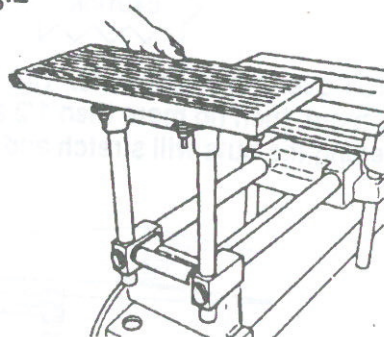
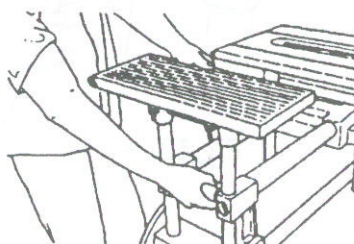

Fig.3
Fig.4
5. Mount the extension table in the Mark V's accessory base mount at a comfortable height, shown in Fig.3. Tighten the accessory mount lock, as in Fig.4.